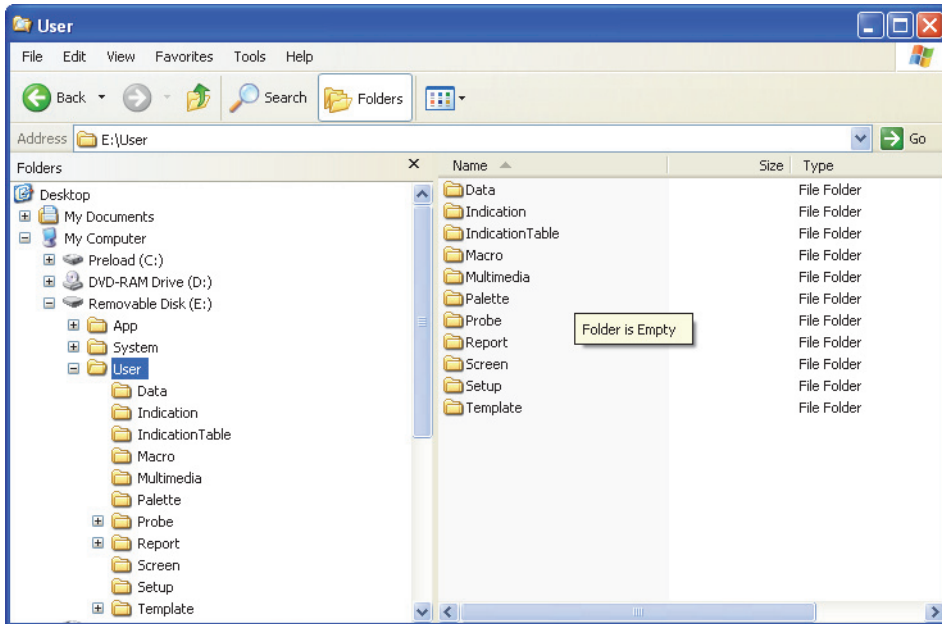
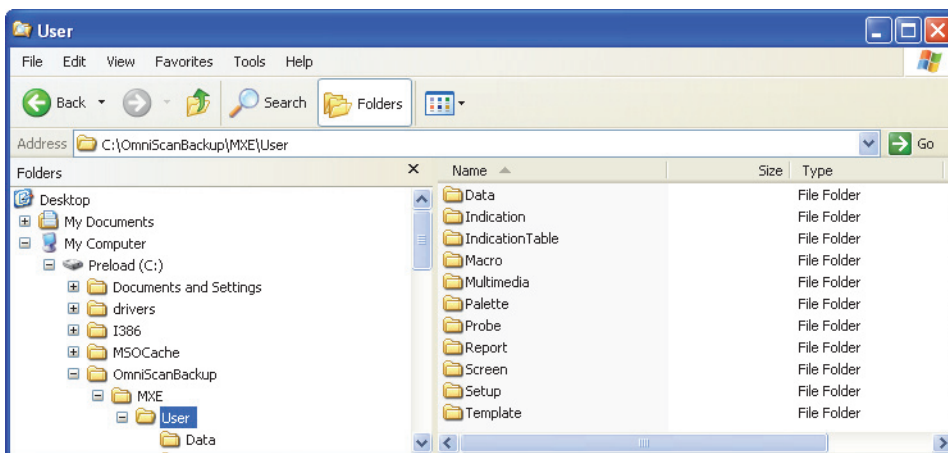

Figure 4-26 The User folder for the MXE application on the storage card
Figure 4-27 The User folder for the MXE application copied to the backup folder
- Using Windows Explorer, copy the **User** folder from the USB storage device (shown for E:\User in Figure 4-26 on page 100) to the backup folder you created in the previous step on your local drive (see Figure 4-27 on page 101).